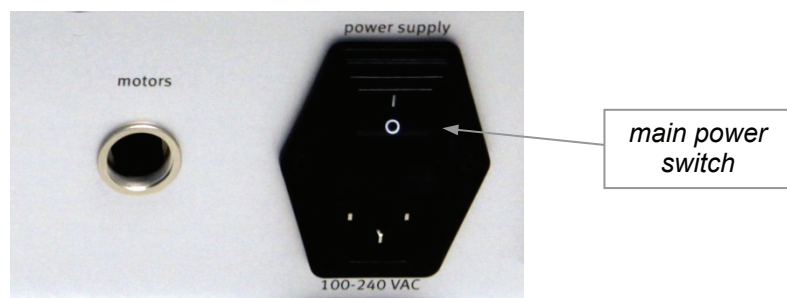

figure 4 – controller main power switch and socket
3. connect the control unit power socket (visible on figure 4, under the main power switch) to a power point using a three prong grounded plug.